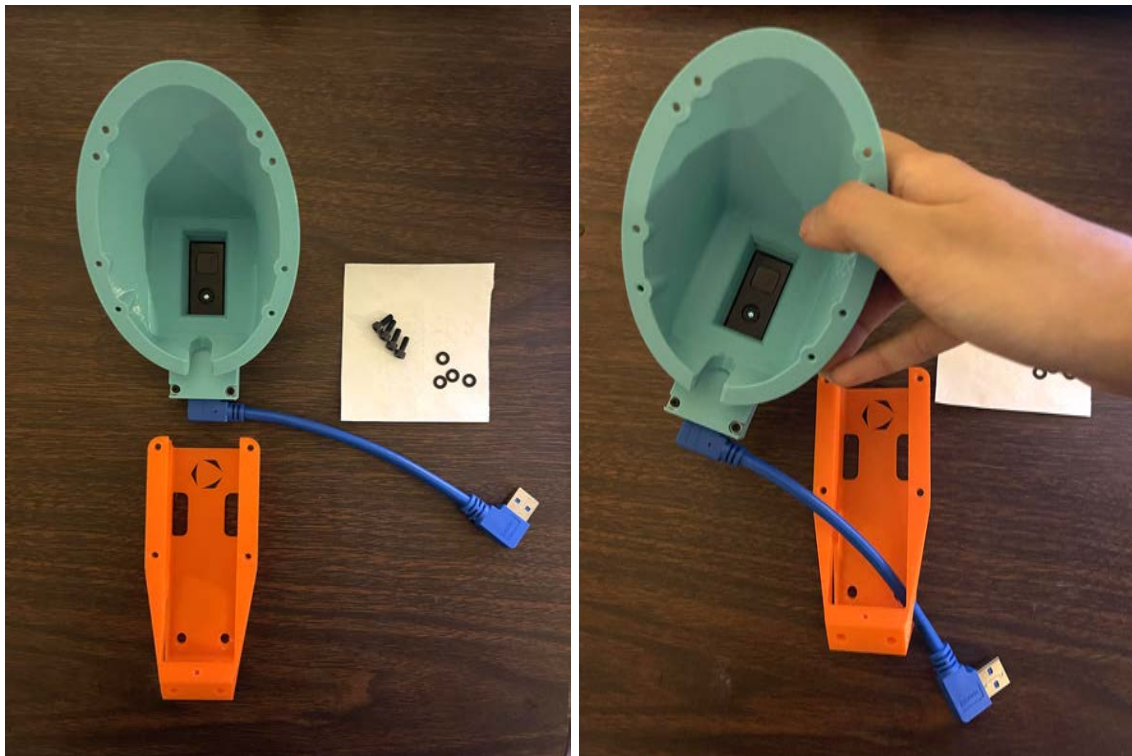

Figure 73: USB cable inserted through the opening of Gripper\_Finger\_Mount
- a. Slide the USB in first through the opening of Gripper\_Finger\_Mount as seen in Fig 73.